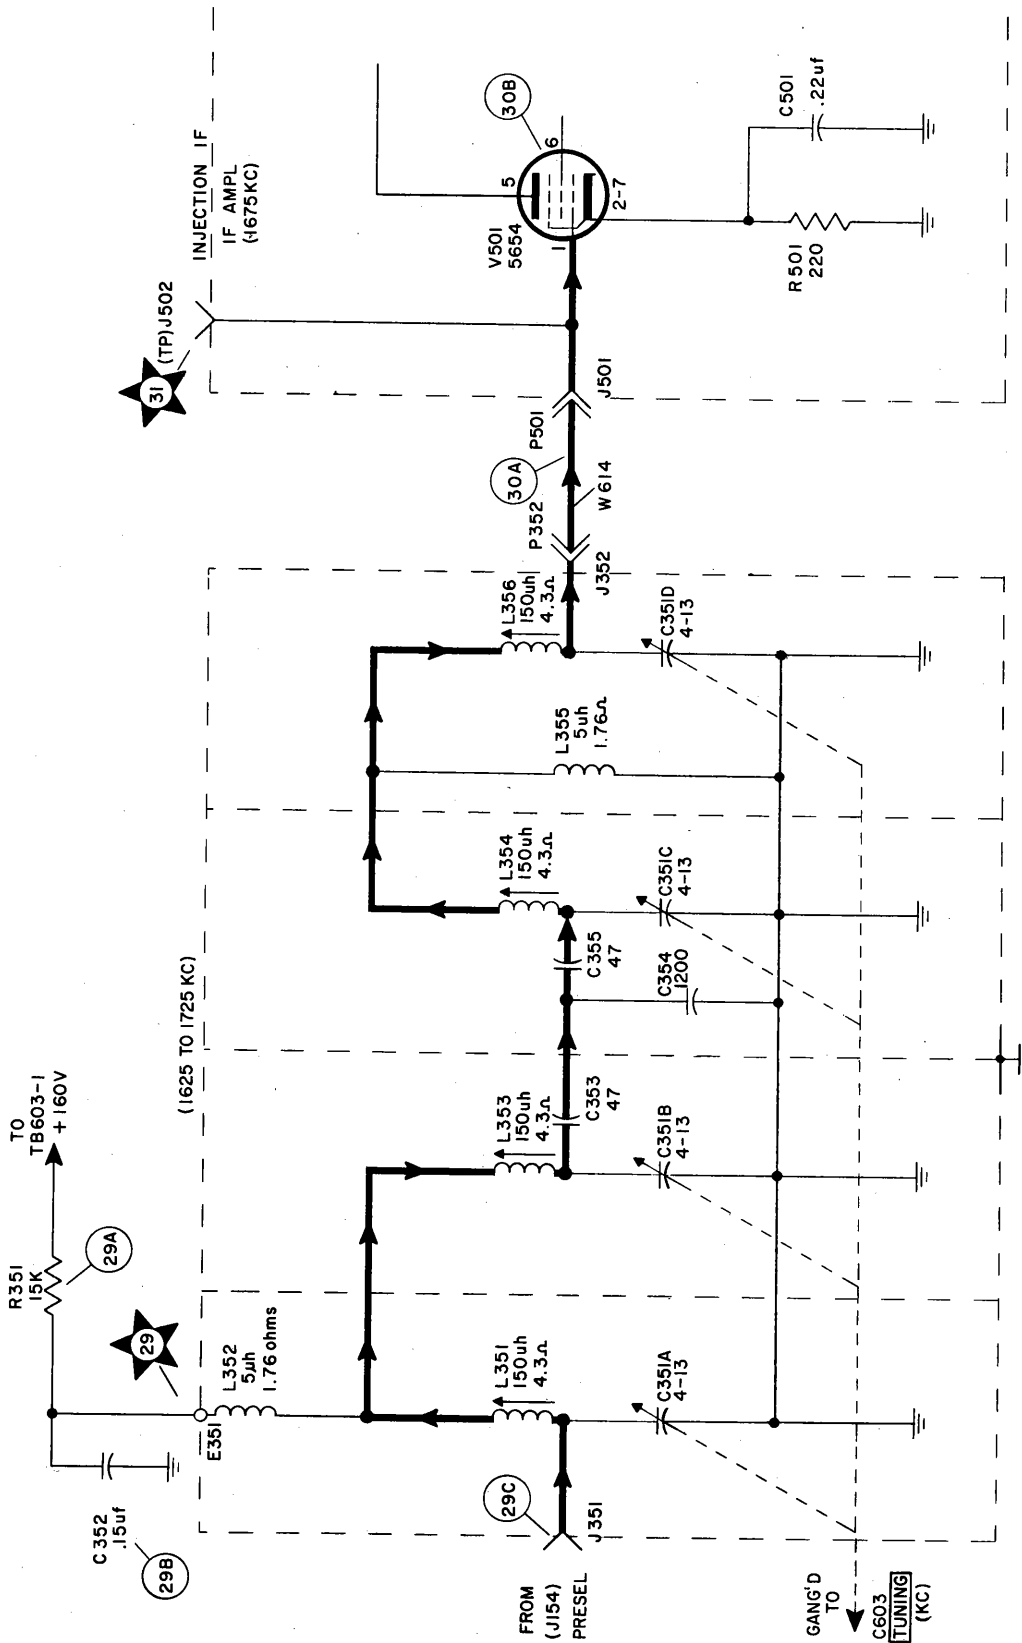
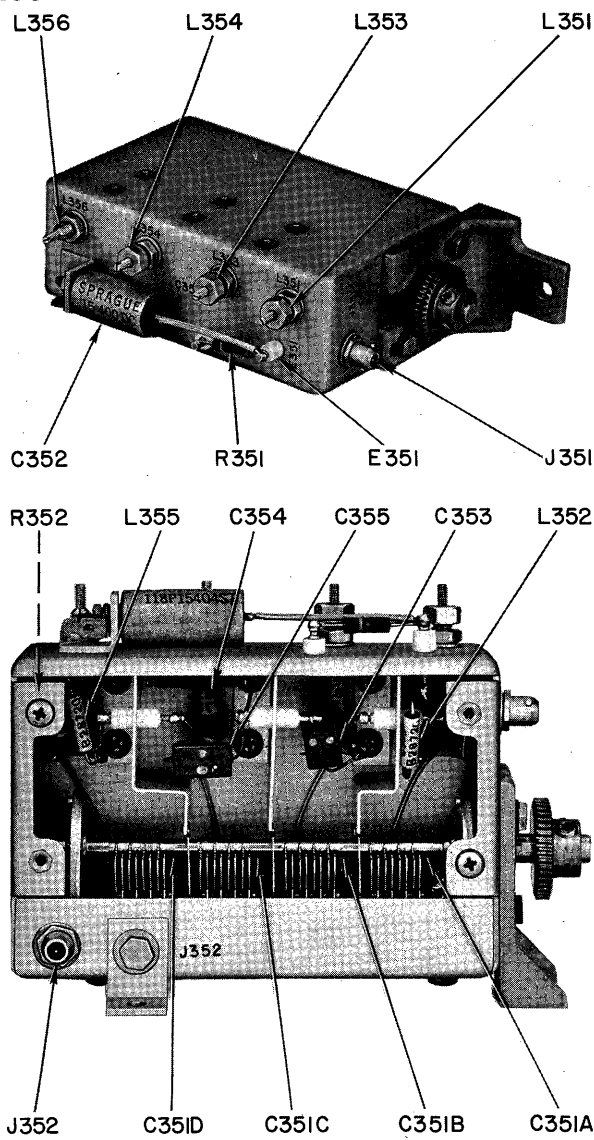

Figure 5-14. Tunable IF Filter, Functional Schematic Diagram
Figure 5-15. Tunable IF Filter, Location of Parts
*a. DIAGRAMS.*—Figure 5-14 is a functional schematic diagram of the tunable IF filter. Refer also to figure 5-11, the functional schematic diagram of the preselector, because the plate circuit load for V151, the preselector mixer stage, is part of the tunable IF filter circuit. Figure 5-15 shows the location of parts of the tunable IF filter and figure 5-16 the location of test points.
- (1) Input and output connectors J351 and J352
- (2) Soldered connections at chassis feed-through E351.